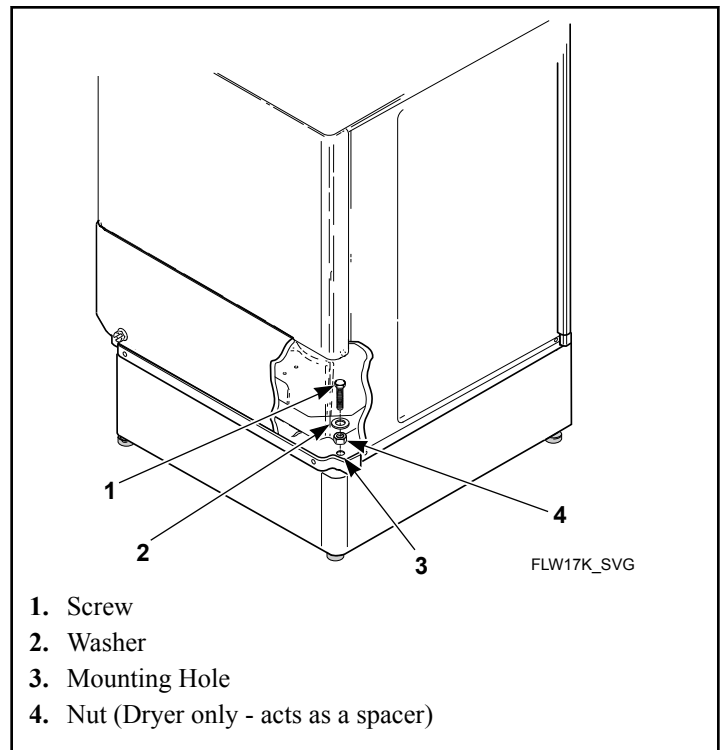

Figure 4
11. With proper help, tilt unit forward and lift. Carefully set unit onto pedestal. Make sure front of unit is positioned to line up with pedestal's mounting holes. Refer to *Figure 4*. Make sure pedestal is square with front and back of unit.
14. Attach washer to pedestal by placing two cap screws and washers from inside of washer into threaded holes on front of pedestal. Refer to *Figure 4*.
13. With proper help, tilt unit forward and lift. Carefully set unit onto pedestal. Make sure front of unit is positioned to line up with pedestal's mounting holes. Refer to *Figure 4*. Make sure pedestal is square with front and back of unit.
16. Attach dryer to pedestal by placing two cap screws, washers and nuts from inside front of unit into threaded holes on pedestal. Nuts act as spacers to keep screw head above dryer base leg holes. Refer to *Figure 4*. Tighten screws after partially installing both.